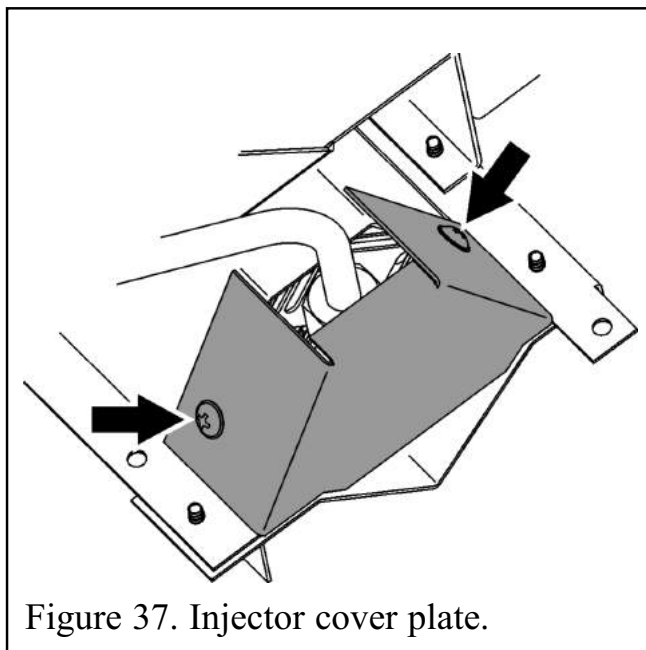

Figure 37. Injector cover plate.
3. Unscrew and remove the injector cover plate from underneath the burner (See figure 37).